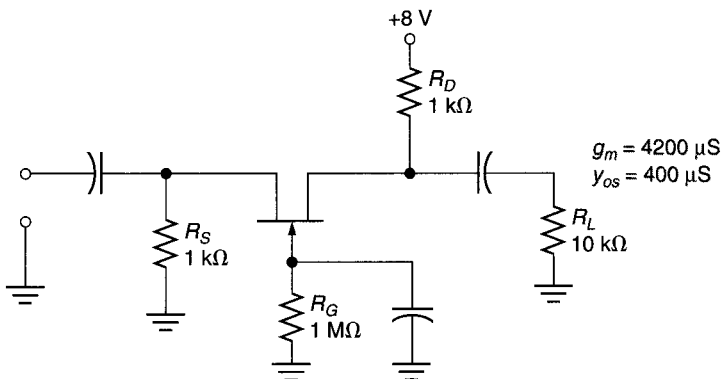

FIGURE 12.70
43. Determine the ranges of  $A_v$ ,  $Z_{in}$ , and  $Z_{out}$  for the circuit shown in Figure 12.70.